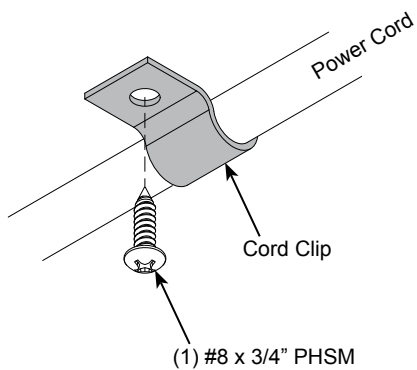

Figure 8.3
4. Install each cord clip with (1) #8 x 3/4" PHSM screw and predrilled pilot hole to secure the power cord under the worksurface. **Figure 8.3.**